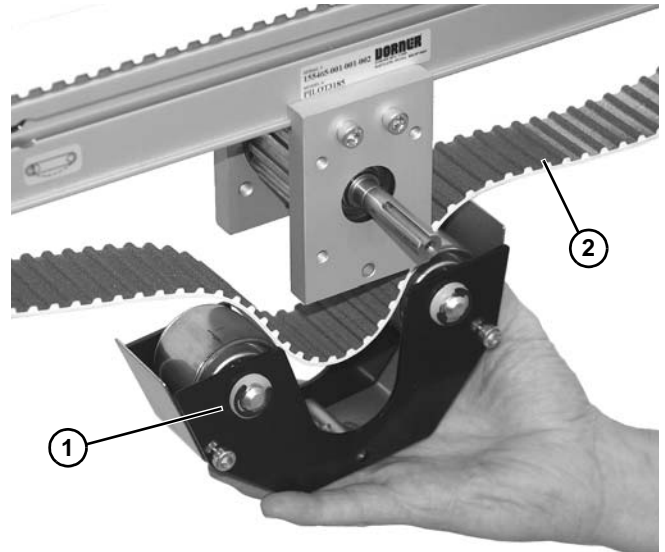

Figure 74
9. Raise mid drive assembly (**Figure 74, item 1**) onto belt (**Figure 74, item 2**).